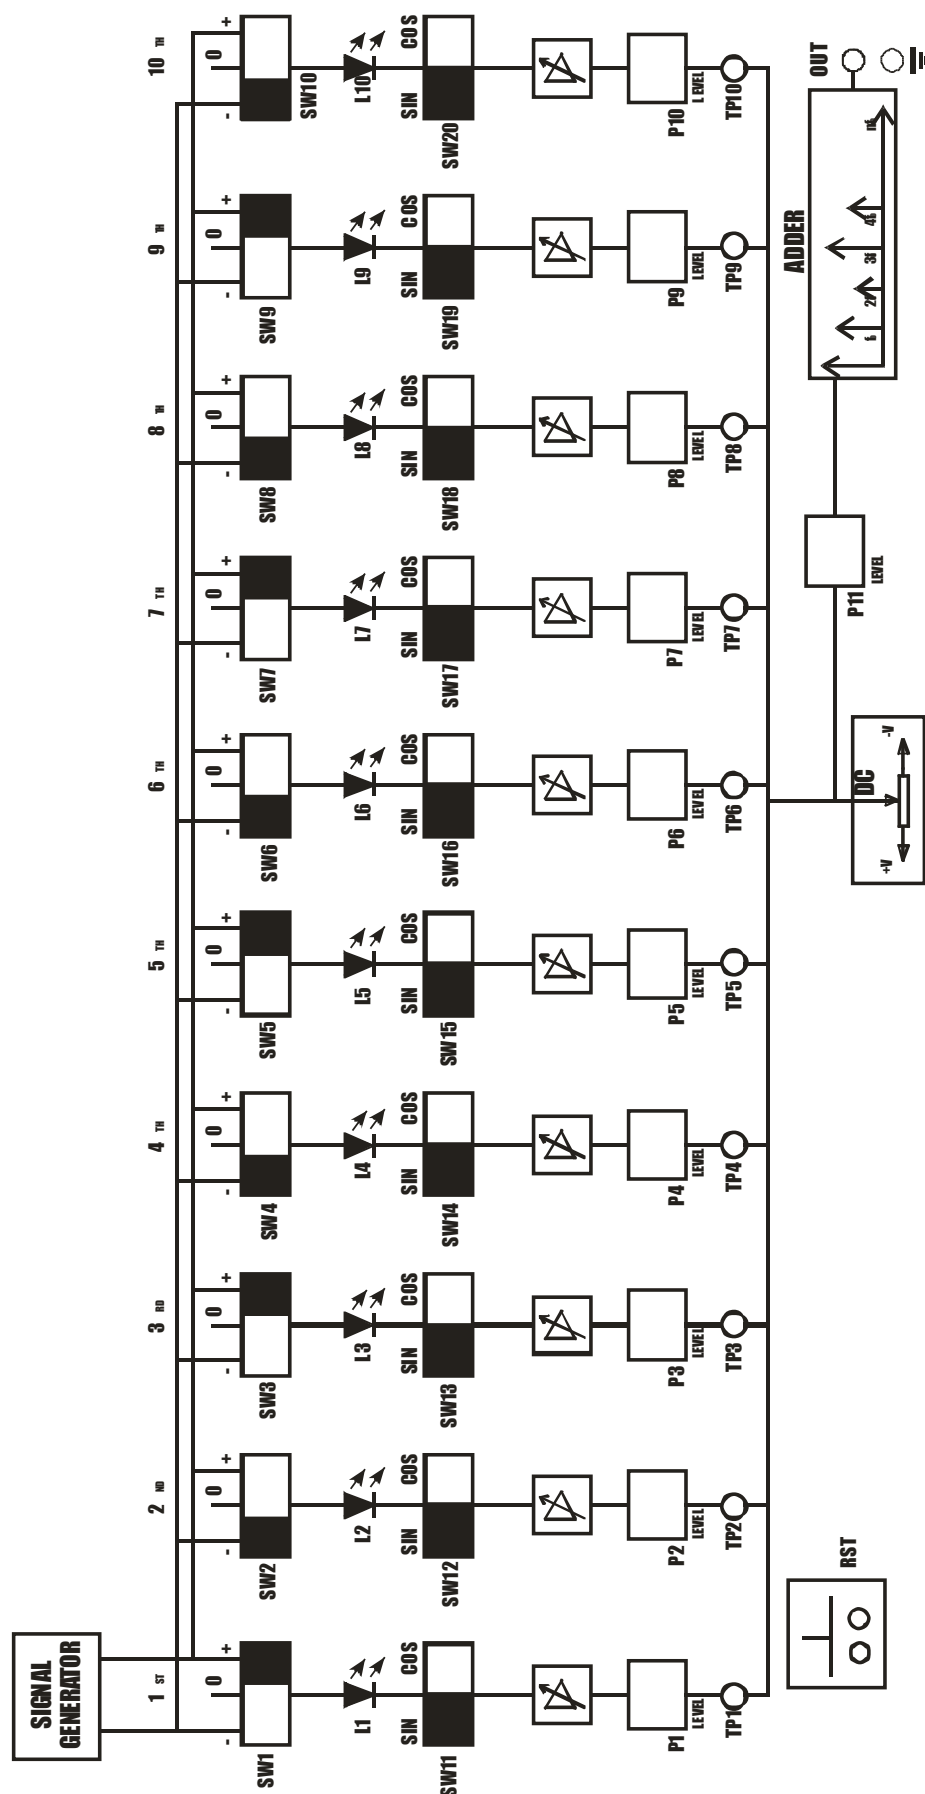

FIG. 3.1
- by referring fig 3.1, set Odd harmonics (1/3/5/7/9): three-way switches “-/0/+” on “+” and two-way switches “sin/cos” on “sin”